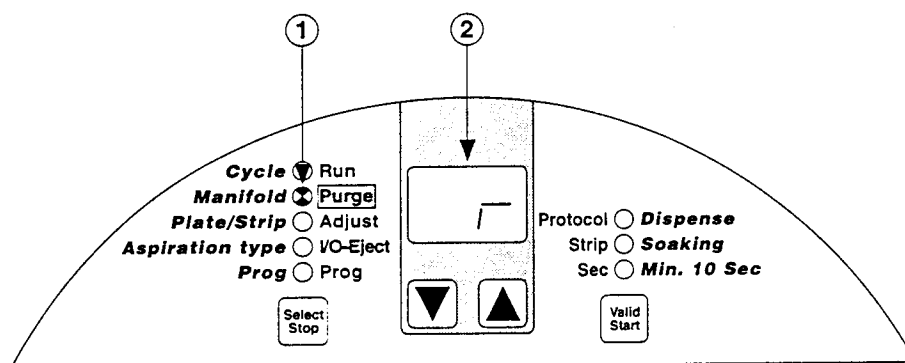

Fig. 33 Rinse tubing and manifold with disinfection solution
- b) Connect the bottle to the washer and launch a rinse operation. (Fig. 33)